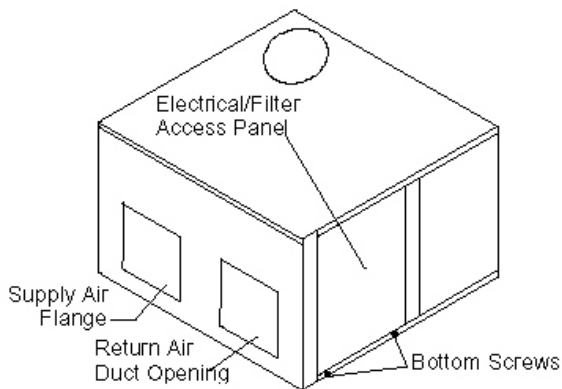

Figure 2: Fan Access Panel
2. Use a 5/16" nut driver to remove the two bottom screws securing the electrical/filter access panel as shown in Figure 2. Remove the electrical/filter access panel.